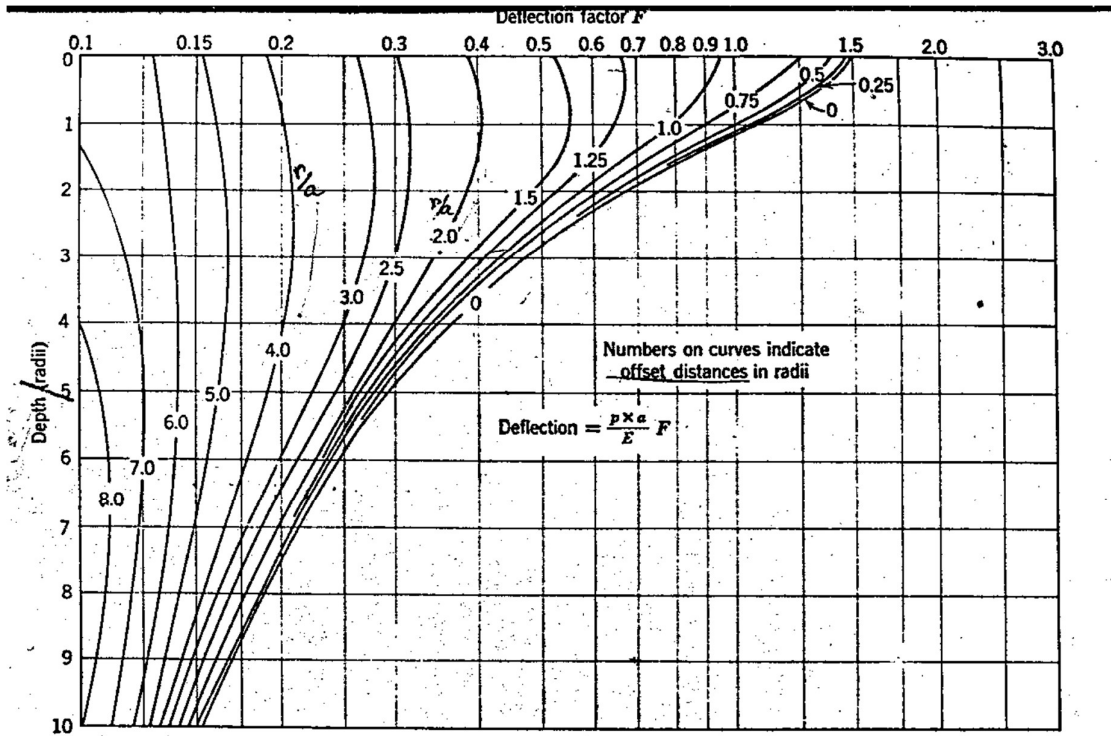

Figure 1. Vertical Deflection (Poisson's Ratio =0.5)
- Q.5(b) Determine an Equivalent Single Wheel Load (ESWL) for a set duals spaced 35 inches apart centre to centre. Load on each tyre is 25000 pounds, tyre pressure 100 psi, and the flexible pavement is 25 inches thick. [1 pound = 0.453 kg; 1 inch = 2.54 cms; but then conversion to SI units is not required]. Use graph paper and Figure 1.]. Use Equal Deflection Criteria. [6]